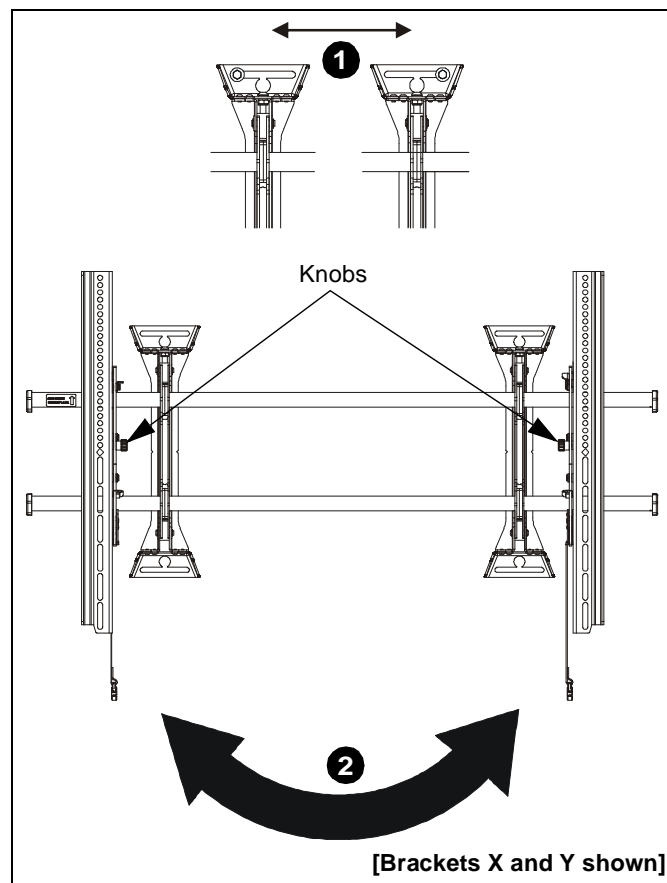

Figure 7
1. The wall brackets may be adjusted side to side at the point of attachment. (See Figure 7)
2. The location of the left and right interface brackets (V and W or X and Y) may be switched, with the knobs on the XTM1U interface brackets (X and Y) facing the inside of the mount. (See Figure 7)